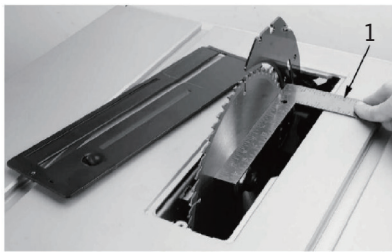
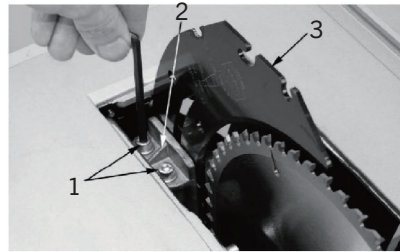

FIG. 7
FIG. 8
1. Using a straight edge (1) (Fig.7), check to ensure the riving knife (3) (Fig.8) is aligned with the blade as shown.
2. If an adjustment is necessary, loosen 2 x cap screws (1) (Fig.8) that hold the throat plate (2) using the 5mm hex key (provided). Adjust the position of the riving knife (3) to the right or left until it is perfectly aligned with the blade. Retighten cap screws.